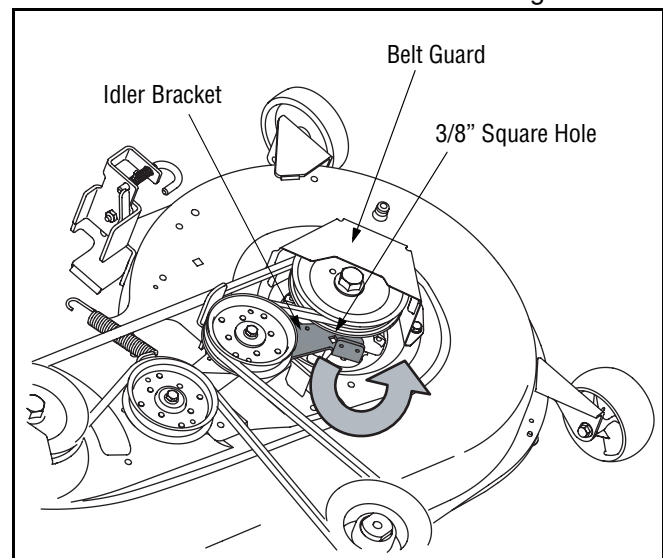

Figure 24
- Insert a 3/8"-drive ratchet wrench (set to *loosen*) into the square hole found in the idler bracket on the left side of the deck's surface. See Figure 24.